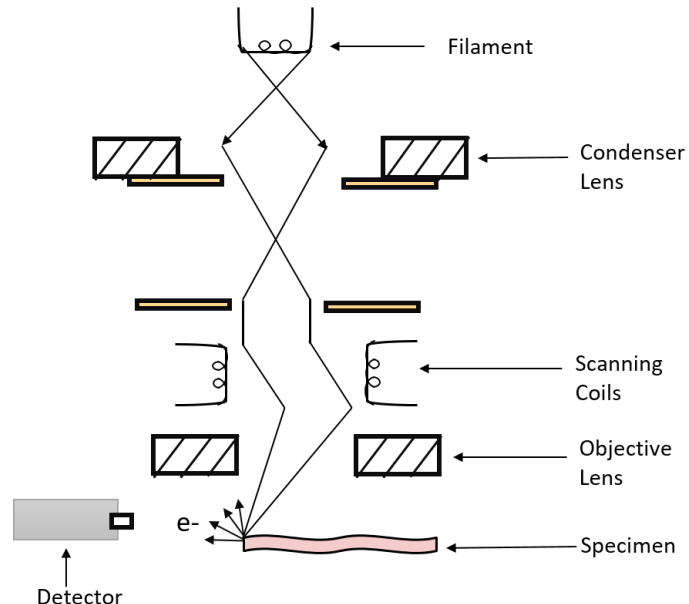

Figure 5.3.1: Scanning Electron Microscope
- Here as shown in *Figure 5.3.1* electron beam is obtained from electron gun and it is made to pass through a condenser lens. Next stage is the scanning coil which is used to focus the electron beam on a small spot on specimen surface and also to scan the surface like electron beam scans in TV picture tubes.